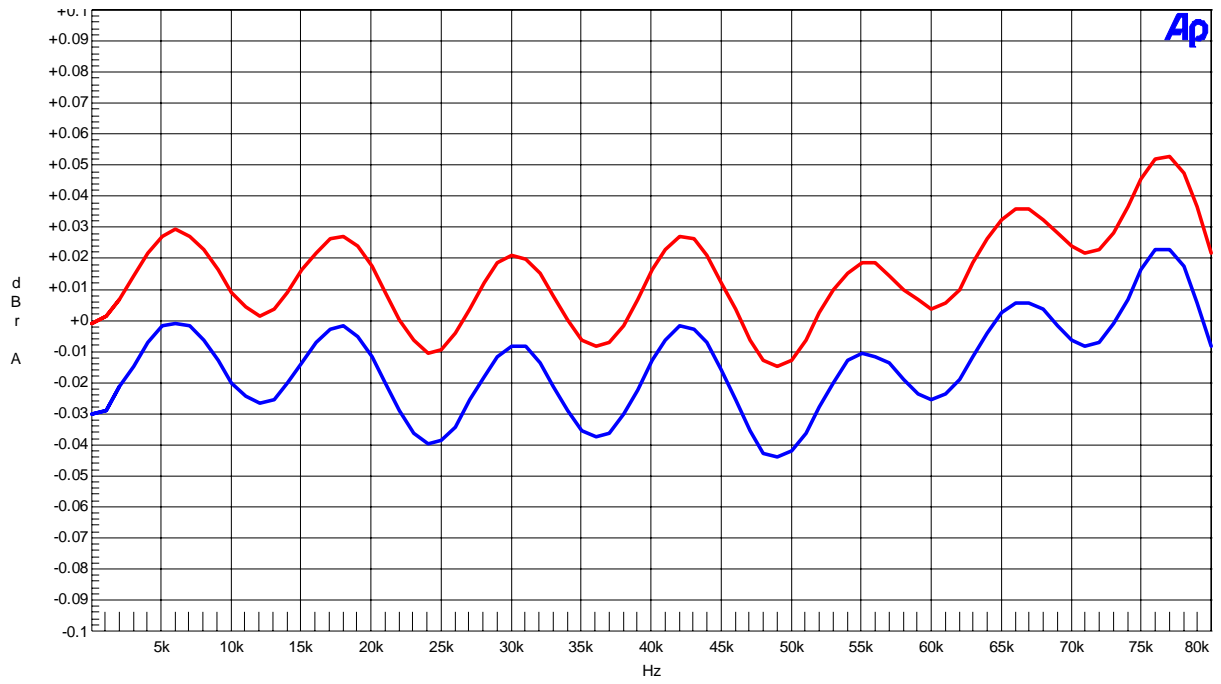

Figure 35. Frequency Response AOUTL Pin / AOUTR Pin (Input Level=0dBFS)
- Figure 35. Frequency Response (Input Level=0dBFS)